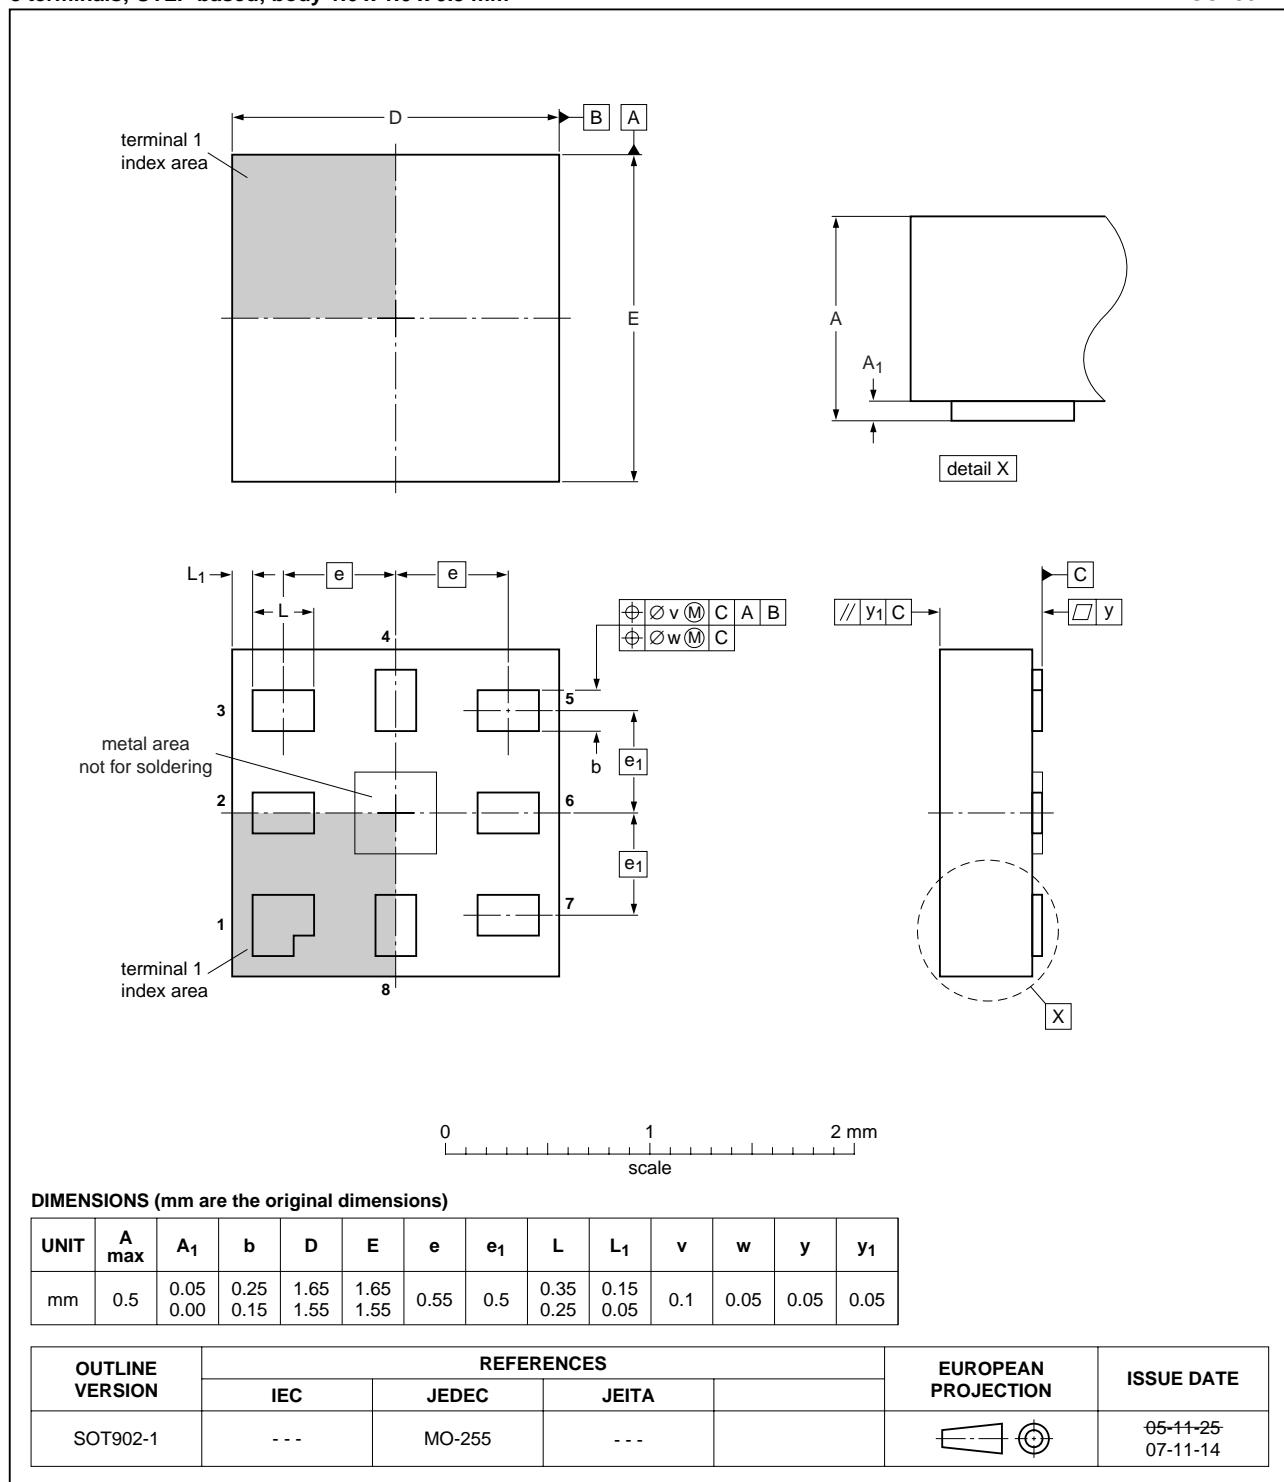

Fig 12. Package outline SOT902-1 (XQFN8U)
• Figure 12 : package outline drawing updated to latest version